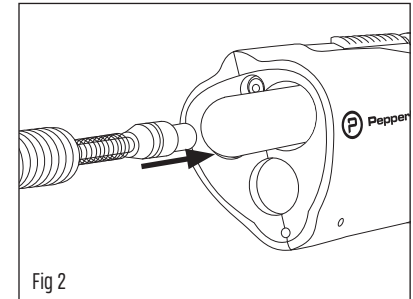

Fig 2
3. Insert 12 gram CO₂ cartridge (skinny end first) into the cartridge chamber where you removed the Puncture Ram. (Fig 2)